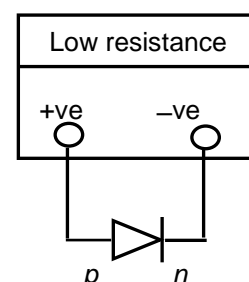

Fig. 9.10: Testing of a p - n junction diode in forward bias.
1. Set the function/range selector switch of the multimeter to the resistance measurement position in the range of 10 k Ω . This range is chosen so that the current through the diode is low (see Fig. 9.10).
4. Connect the red lead to the p -side and black lead to the n -side. If the diode is in working condition, you should get a low resistance ($\sim 10\ \Omega$ to $10^2\ \Omega$) reading (Fig.9.10). If the meter indicates a low resistance value, it means that the diode is working properly.